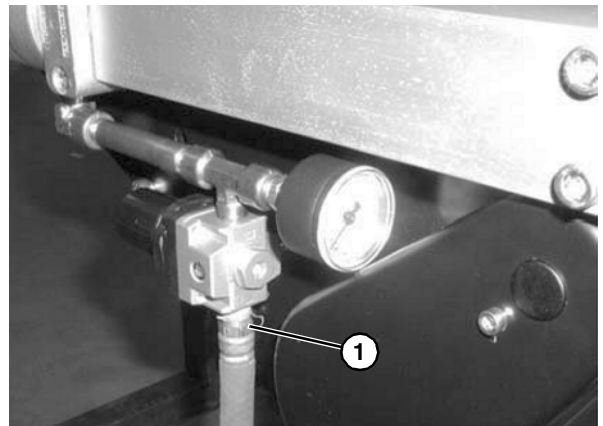

Figure 70
- Remove air supply and remove hose (Figure 70, item 1) from center drive.